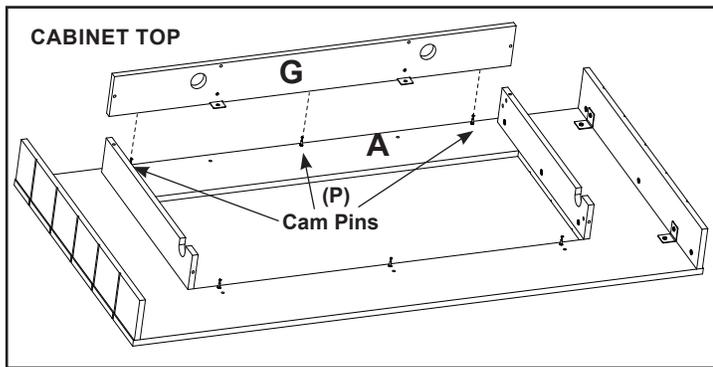

Figure 15
- Align parts "G" onto the three (3) Cam Pins (P) installed on part "A". See Figure 15.